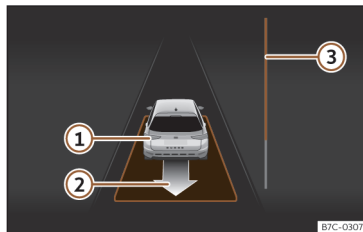

Fig. 178 On the instrument panel display: exit a parallel parking space.
The progress bar »» Fig. 178 ③ indicates the distance to cover »» page 260 .